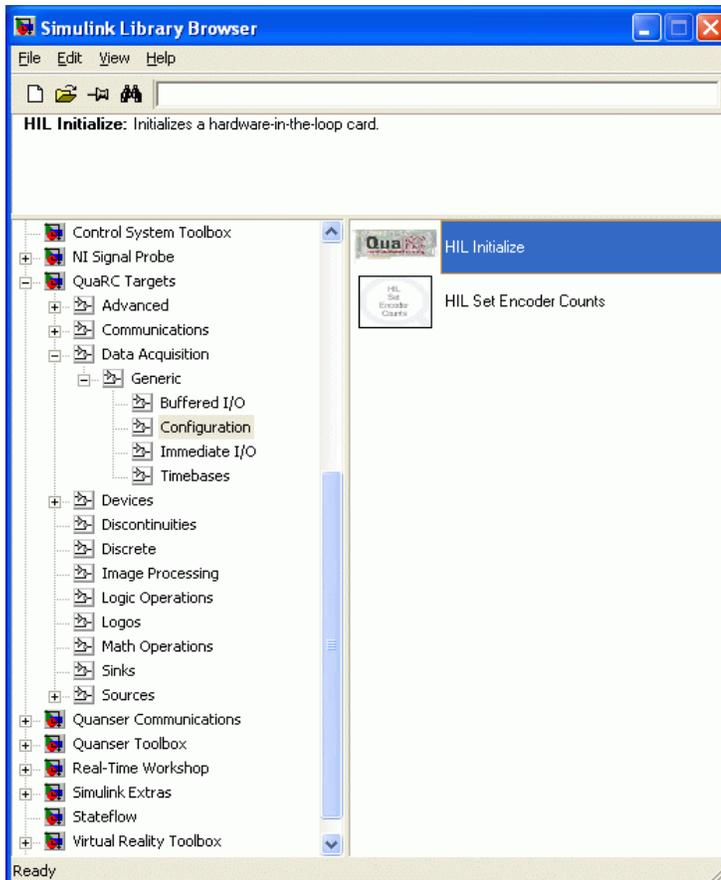

Figure 4: QuaRC Configuration folder in the Simulink Library Browser window.
4. As illustrated in Figure 4, expand the *QUARC Targets* item and go to the *Data Acquisition \ Generic \ Configuration* folder.